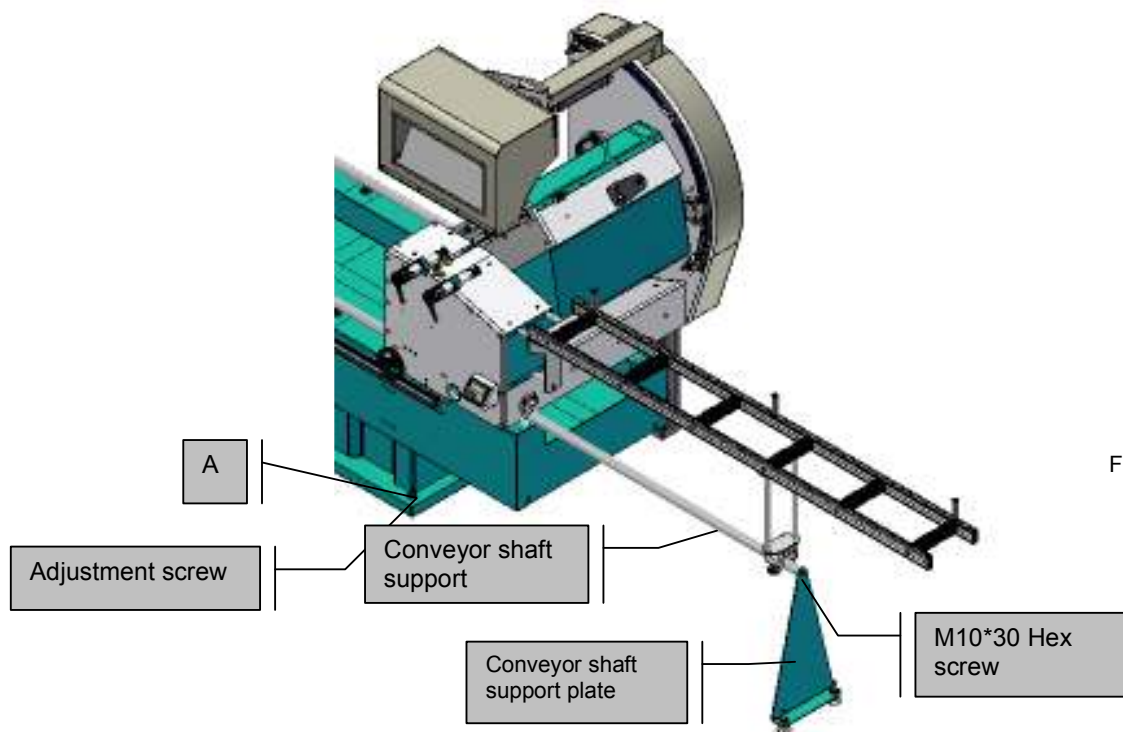

FIGURE 11
**4.1.1.4.** In order to preserve machine's stability be sure that the legs are touching ground When it is necessary adjust it with the adjusting screw at feet. (See figure 11)
4.2.8. Assemble conveyor driving shaft to the driving shaft on the chassis (see Figure 11)